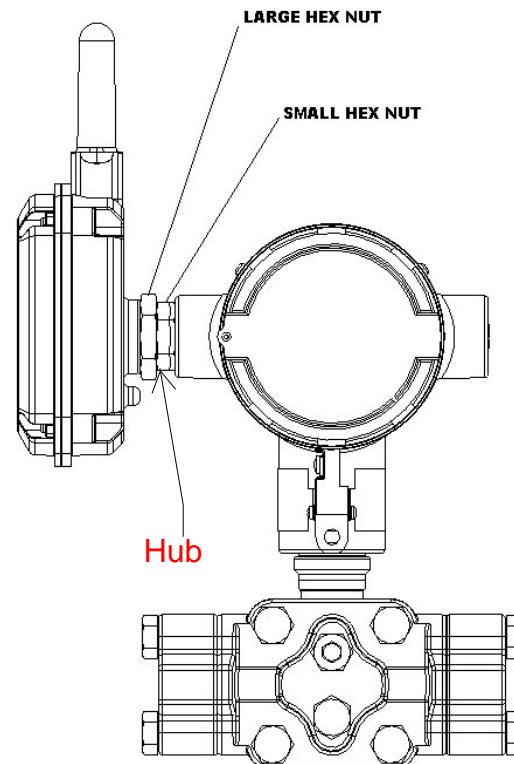

Figure 3-2
4. Insert wires through conduit entry of the unit to which it is to be mounted then start to thread the adapter hub into the conduit entry. Use the hex on the adapter hub (smaller hex - See Figure 3-2) to securely tighten the adapter hub to the unit. To reorient the antenna of the adapter loosen the jam nut (Turn larger hex nut CC when looking at the front of the OWA 100 Adapter) and rotate the unit to the desired antenna location then retighten the jam nut. Note: The rotation of the unit is limited to 350 degrees.